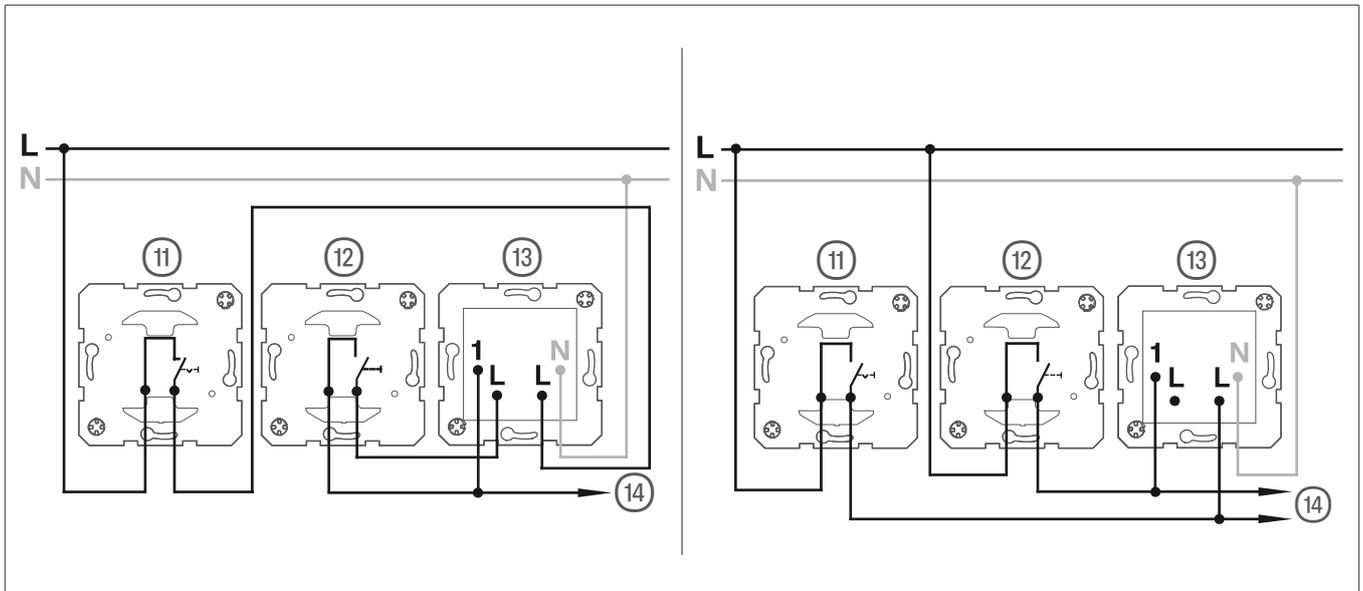

Fig. 4: Connection example of colour switching via outer conductor looped (left) / not looped (right)
The following example circuits show two ways to connect the LED signal light. In the connection example (Fig. 4, left) the neutral conductor is pressed onto control input **1**, in order to switch over the colour. In the connection example (Fig. 4, right) the outer conductor is pressed onto the control input **1**.
- 1 Connect the LED signal light, RGB according to the connection example (Fig. 4) or (Fig. 1).
- 2 If required, connect additional LED signal lights, RGB via (14).
- 3 Install insert (13) into a wall box. The connecting terminals must be at the bottom.